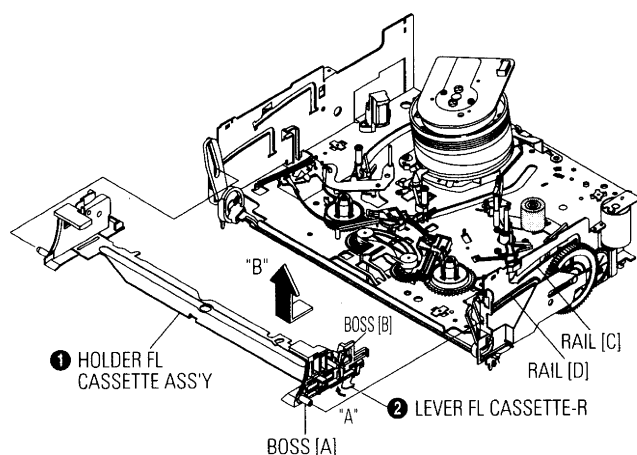

Fig. 4-11 Holder FL Cassette Ass'y Removal
- 2) Remove the Holder FL Cassette Ass'y. (Refer to Fig. 4-11)
- 3) Release the Hook ❶ in the direction of arrow "A", pull out the Lever FL Arm Ass'y ❷ from the Boss of Main Base.
- 4) Remove the Lever FL Arm Ass'y ❷ in the direction of arrow "B".
**Assembly :** When reinstalling, be sure to reassemble Lever FL Arm Ass'y ❷ after you insert the Boss ❷ in Groove [A] of Slider FL Drive ❸.